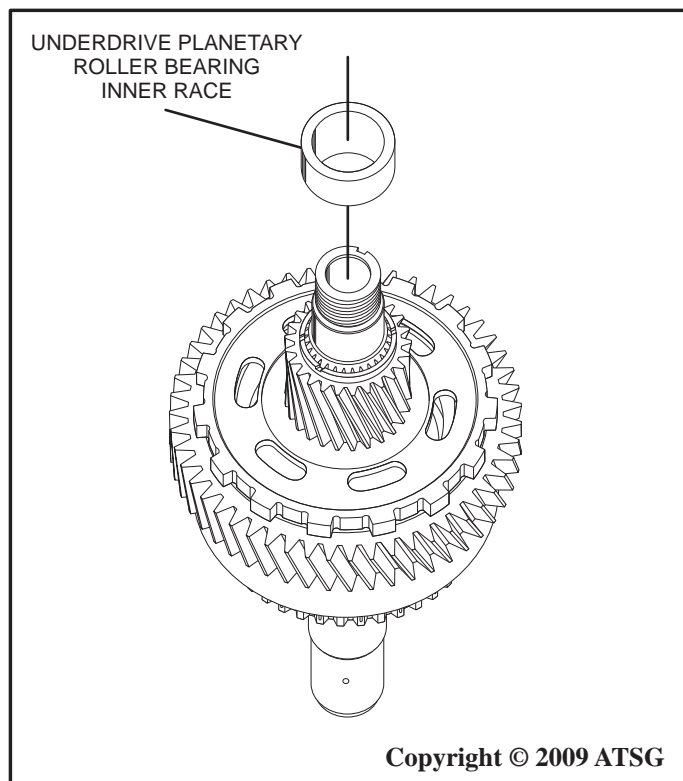

Figure 70
3. Using SST 09950-00020, 09950-00030, 09950-60010 (09951-00340) or a suitable bearing removal tool, remove the underdrive planetary roller bearing inner race as shown in Figure 70.